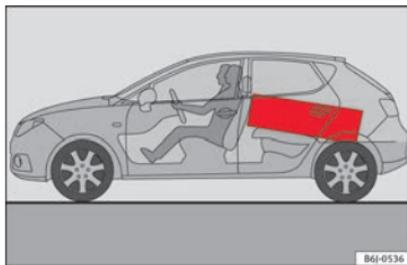

Fig. 147 Position heavy items as far forward as possible.
- Place heavy objects as far forward as possible in the luggage compartment » Fig. 147.